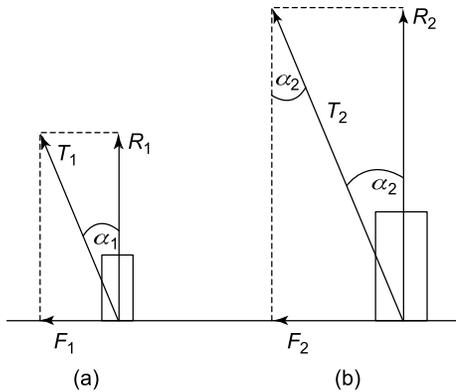

Figure 17.3
i.e.  $T_1 = R_1 \times \sqrt{1 + \mu^2}$  (see Figure 17.3(a))
From Figure 17.3(b),  $T_2 = \sqrt{F_2^2 + R_2^2}$